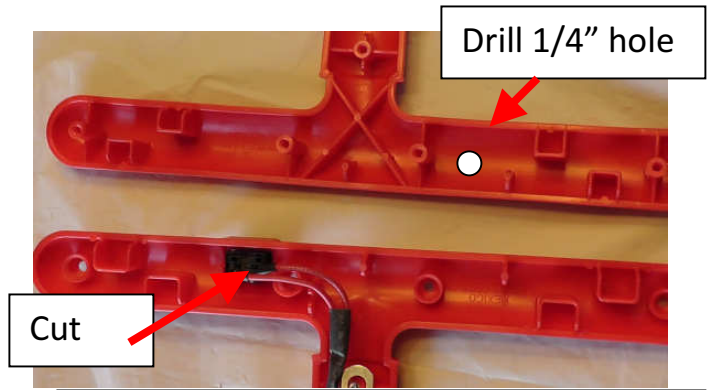

Fig. 14 Cut Wires and Drill Hole
32) Cut the wires going to the current Go Switch close to the switch, and strip the insulation back 3/8" from the ends. **Fig. 14**
33) **Drill** a 1/4" hole through the dashboard at the point you want the GO BUTTON Jack to be. **Fig. 14**